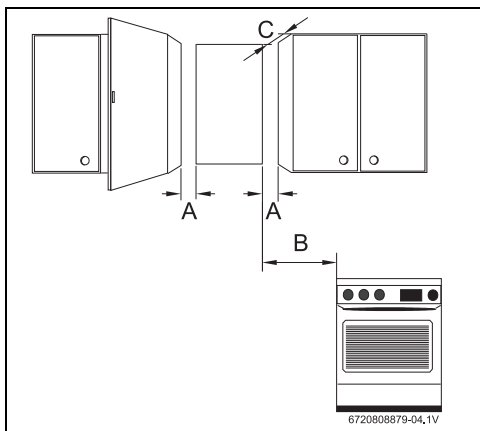

Fig. 5 Minimum distances
- ▶ Comply with the minimum installation clearances indicated in fig. 5 and table 10.